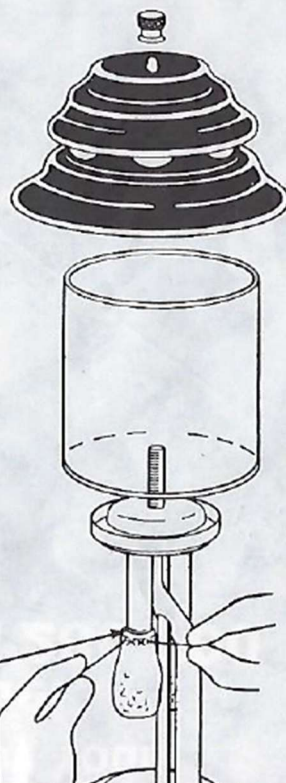

Fig. 4
2. Tie MANTLES around grooves in BURNERS. (Fig. 4) Distribute folds of MANTLE evenly. CUT OFF SURPLUS STRING 1/4" FROM KNOT. EXCESS STRING CAN CAUSE HOLES IN MANTLE.